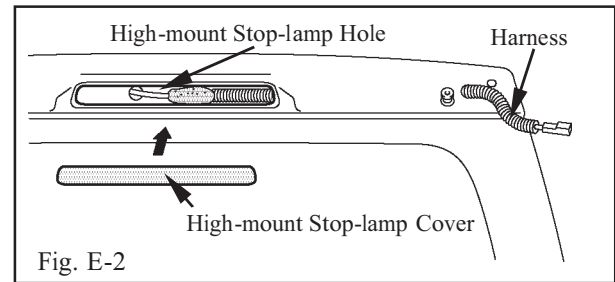
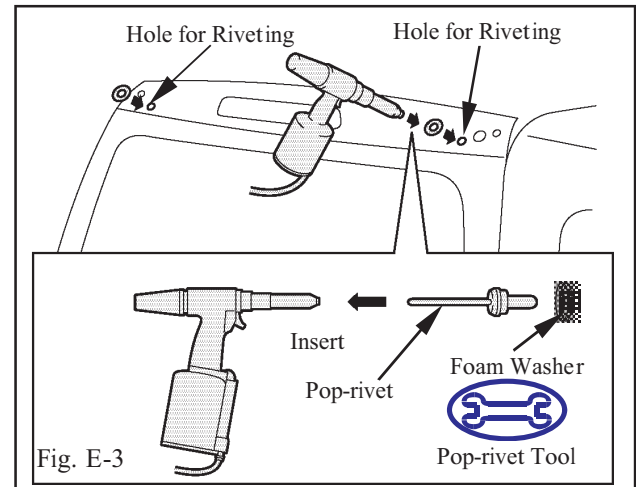

Fig. E-2
Fig. E-3
- ➔ 2. Remove the plastic liners from the adhesive pad on the high-mount stop-lamp cover, and install it. (Fig. E-2)
- ➔ 3. Coat the edges of the five (5) holes with 3M™ Ultra Pro Auto Body Sealant.
4. Install pop-rivets using the pop-rivet tool (2 locations). (Fig. E-3)
- ⊘ i. Install foam O-rings (washers) onto pop-rivet tip prior to pop-rivet installation. (Fig. E-3)